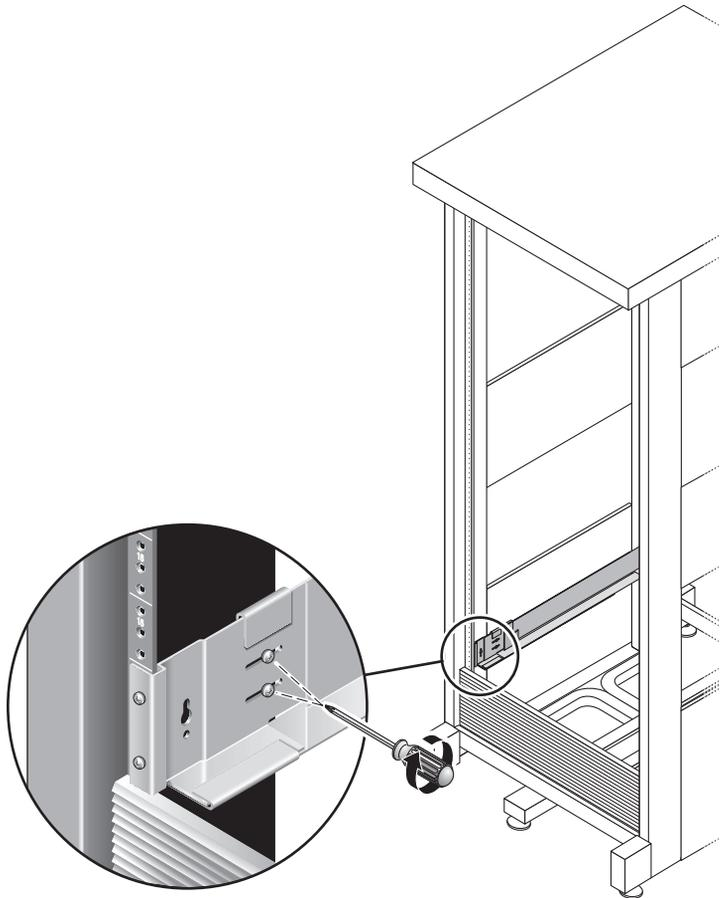

FIGURE 2-12 Tightening the Adjusting Screws
- Using the #2 Phillips screwdriver, tighten the four adjusting screws (two on each side) toward the back of each rail (FIGURE 2-12).